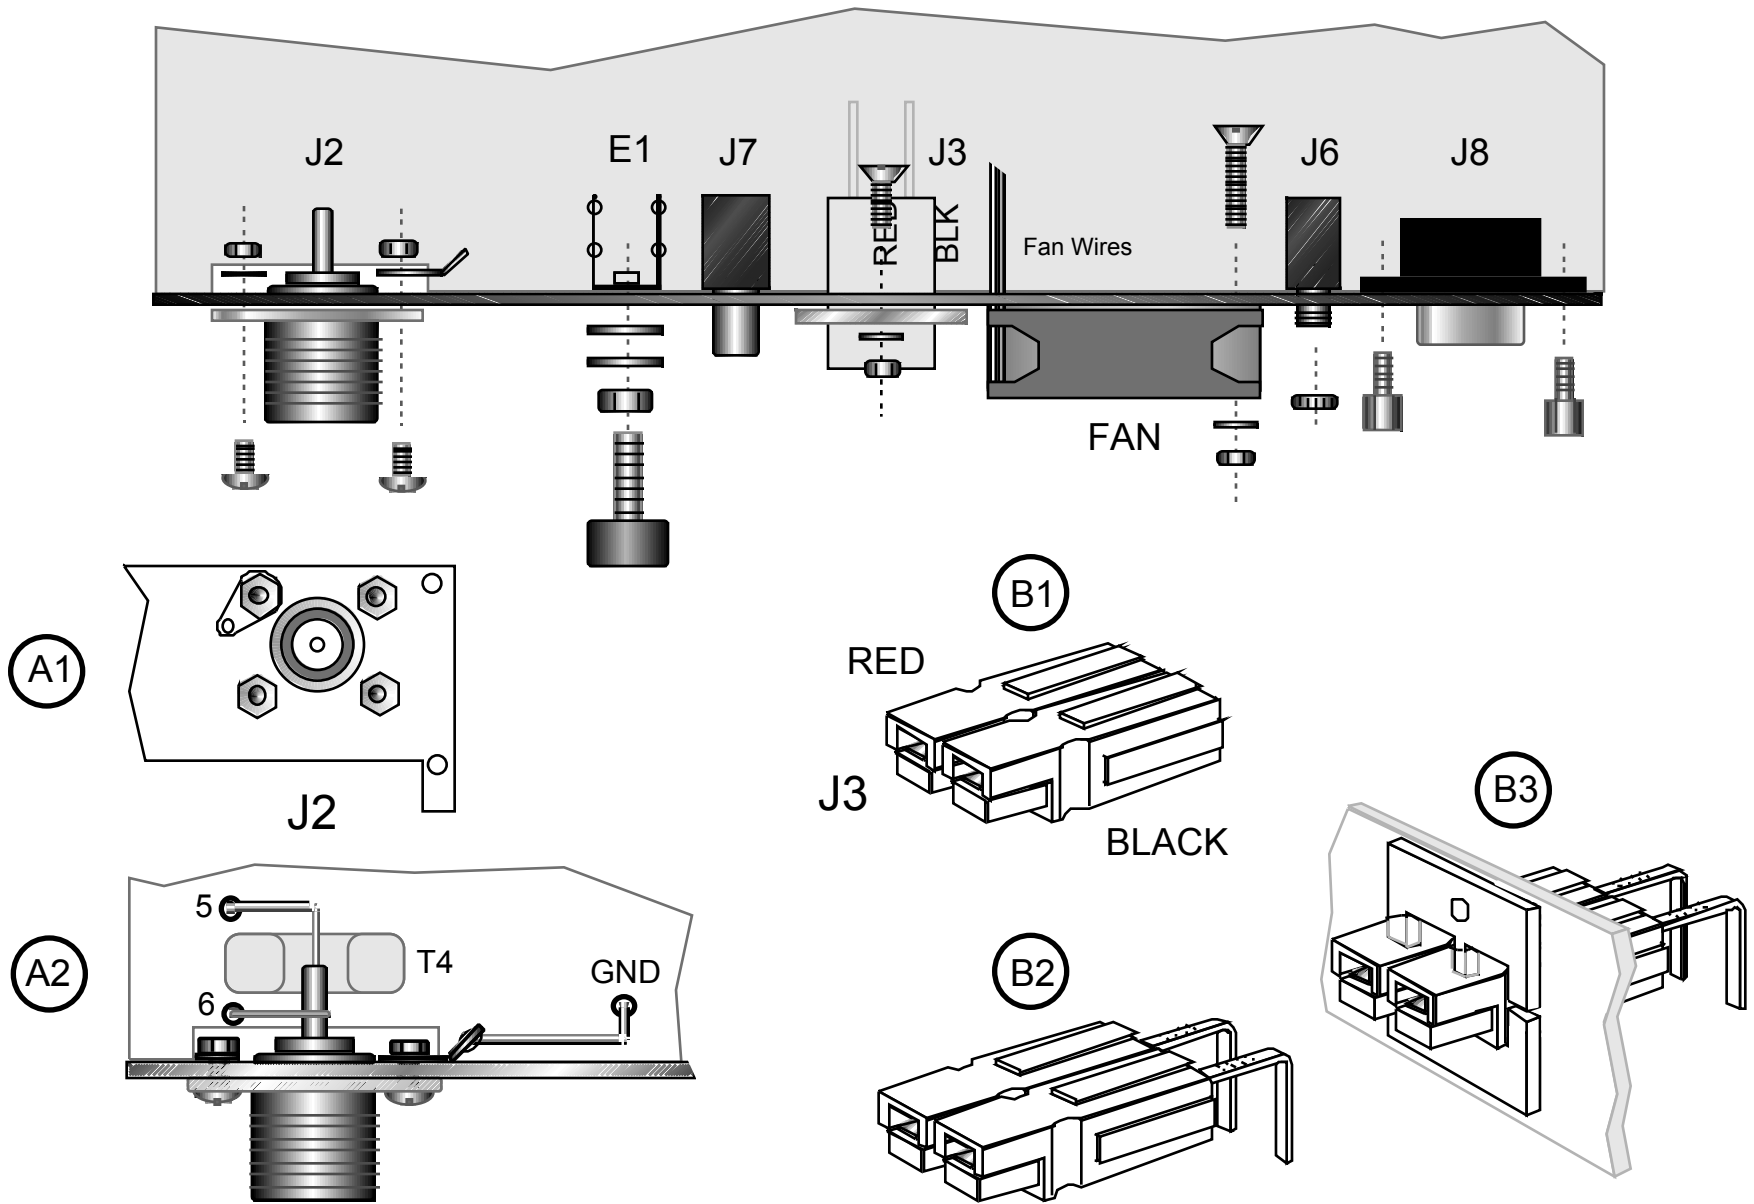

Figure 22
Figure 22 (page 29) shows the connectors and other hardware that will be attached to the rear panel in the following steps. The antenna jack (J2), DC power jack (J3), and fan will be secured to the panel first, then the rear panel assembly will be attached to the KPA100 PC board.
Attach the antenna jack, J2 (SO239) to the rear panel as shown in Figure 22. Use four 4-40 x 1/4" (6.4 mm) pan head screws, one solder lug, **three** #4 split lock washers, and four 4-40 nuts. As shown in Detail A1, the solder lug takes the place of one lock washer. The lug must be installed on the screw nearest the top edge of the rear panel. **Do not overtighten the hardware.**
Locate two DC input connector housings, one red and one black. Hold the two connectors in the orientation shown in Detail B1 of Figure 22. Look closely at the sides of the connectors. Each has a small tongue on the right side, and a groove on the left.
Use two E-shaped brackets to hold the housings in place, as shown in Detail B3 (one from above, one from below). Secure the brackets to the rear panel using two 4-40 x 1/4" (6.4 mm) flat head screws, two #4 split lock washers, and two 4-40 nuts. This hardware is shown in Figure 22 (at top).
Solder one end of the **red** wire to the center pin of the antenna connector (J2) as shown in Figure 22, Detail A2. Remove any excess solder from the outside of the pin using desoldering braid.
- Solder J2's wires to the points indicated in Detail A2 of Figure 22. The red wire goes to T4 pin 5, black wire to the pad labeled "GND" near E1, and bare wire jumper to T4 pin 6.